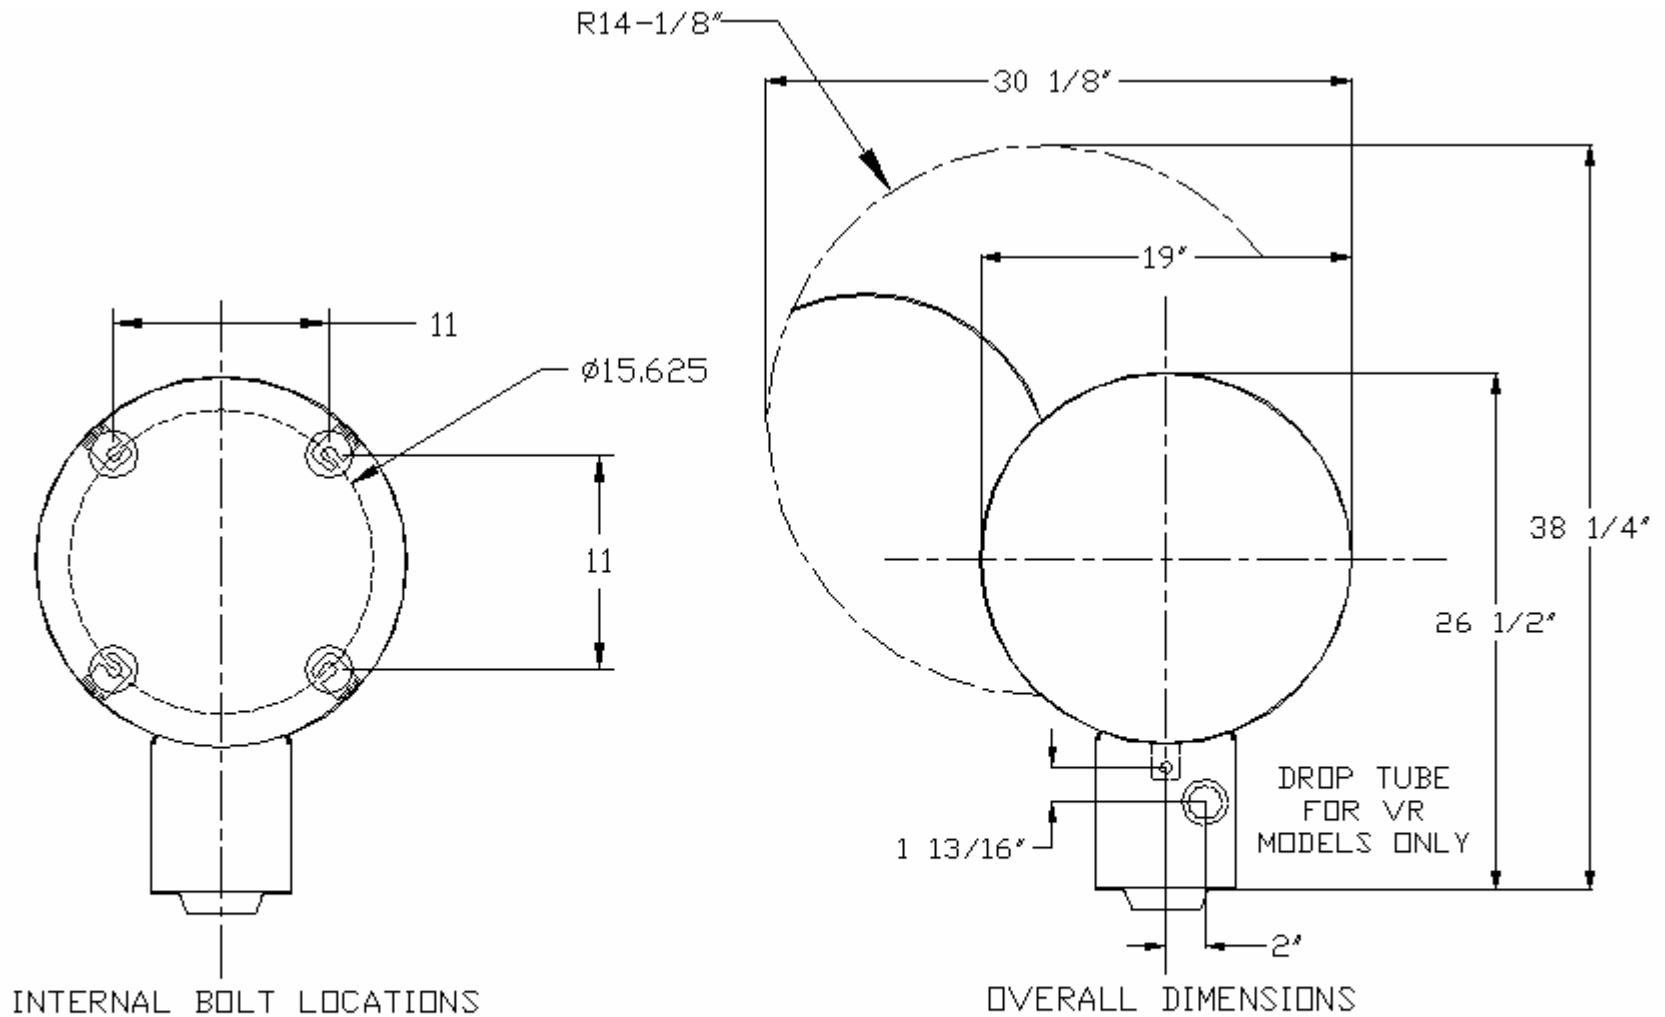

Figure 2: Installation footprint and vac dimensions
1. Using the dimensions shown in Figure 2 (page 7), install the mounting studs.